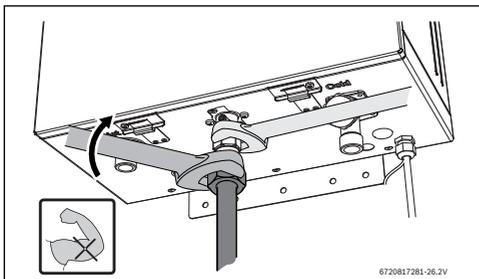

Fig. 10 Tighten gas pipe to the heater
- ▶ Tighten gas pipe with the support of a wrench, see fig. 10.